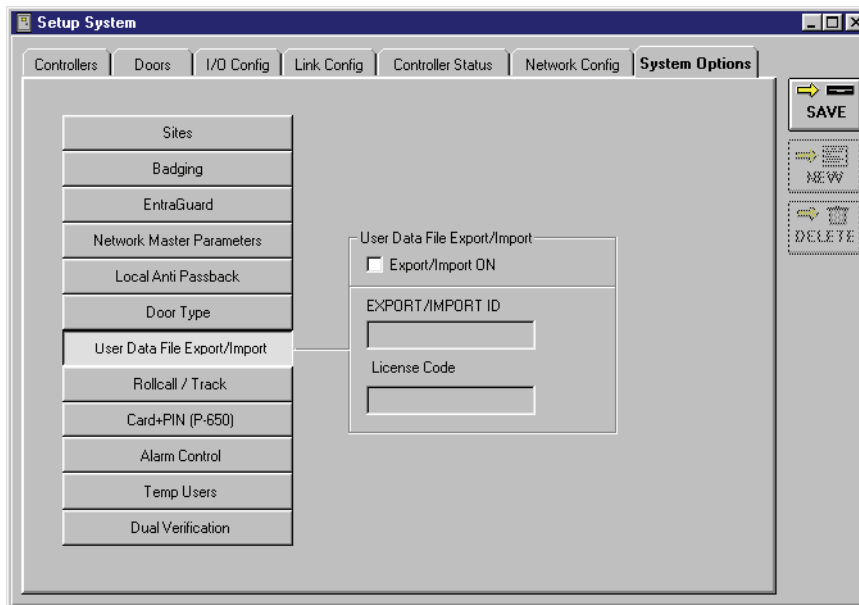

Figure 11-1: System Options Tab - User Data File Export/Import Disabled
1. Click on the Setup ⇒ System pull-down menu or click on the  button on the tool bar, then click on the **System Options** tab. The System Options window appears. Click on the  button to reveal the User Data File Export/Import field (see Figure 11-1).